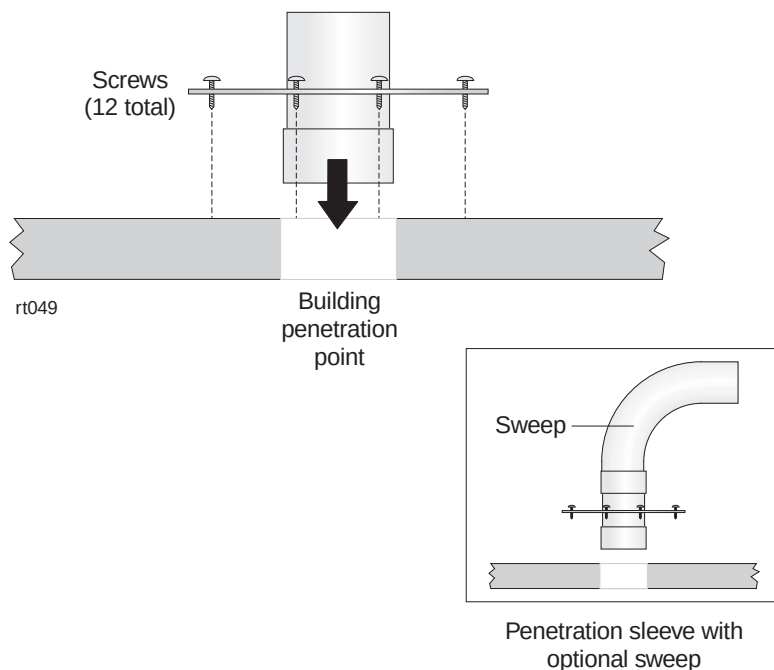

Figure 4-4 Installing the remote penetration sleeve
1. Use twelve screws to attach the remote penetration sleeve (sleeve and coupling) to the building surface at the building penetration point. See figure 4-4.
Note: The penetration sleeve location is site-specific and dependent on the building penetration point. An optional sweep, shown in figure 4-4, is available for use with the penetration sleeve for locations where space is limited.
2. Run the cable from the IDU chassis location, through an existing conduit if possible, through the remote penetration sleeve (figure 4-4), to the lightning arrestor location. Use a stand so the cable spool spins freely as it is pulled. Leave a service loop.